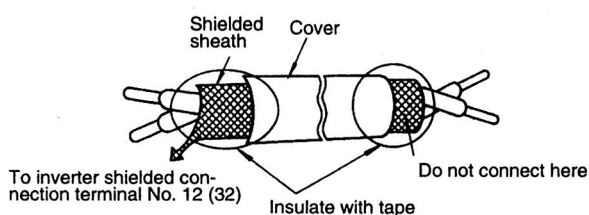

Fig. 3 Shielded Wire Termination
- (1) Separate AO-12 control signal wiring (terminals TD1 to TD3) from main circuit wiring or other power lines.
- (2) Use shielded cable for control signal wiring and prepare the ends as shown in Fig. 3 to prevent malfunctions caused by noise. Wiring length must be 50 m or less.